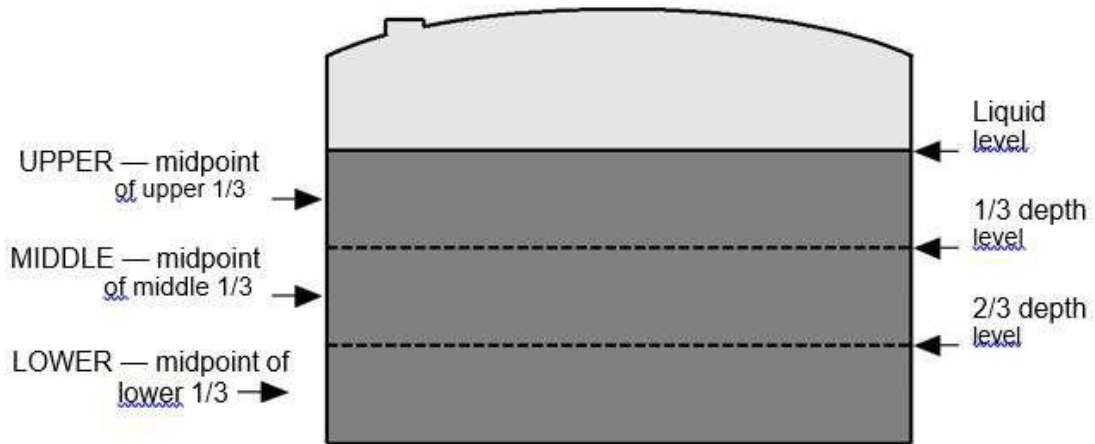

Figure 1.4. Where to take samples in a large tank
- For large tanks, see **Table 1.2** and **Figure 1.4** for proper sampling levels.
In small tanks, test the upper and lower samples separately for suspended S&W. In addition to these samples, you may also take a bottom sample to determine the height of the settled S&W. Figure 1.4 shows where to take samples in a large tank.